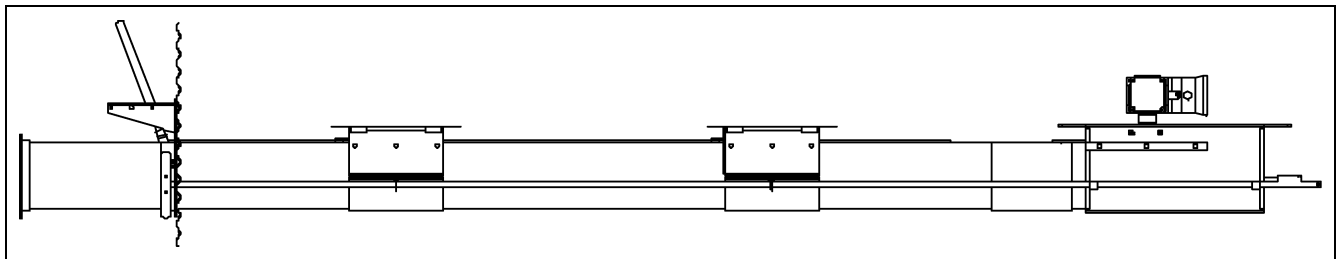
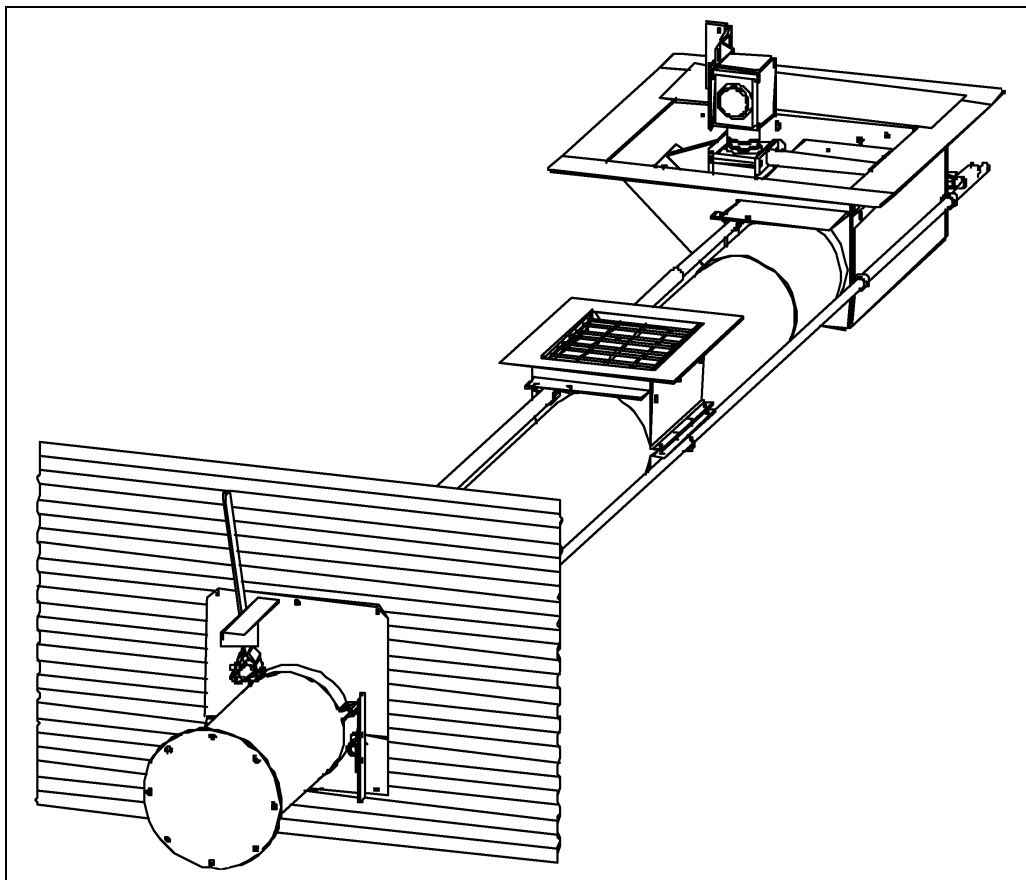

Figure 3R
Figure 3T
- A. Slide clutch control pipe through the bin flange and the support rings on the intermediate and center wells. Slide clutch control pipe into collar of the center well. (See Figure 3R and Figure 3T.)